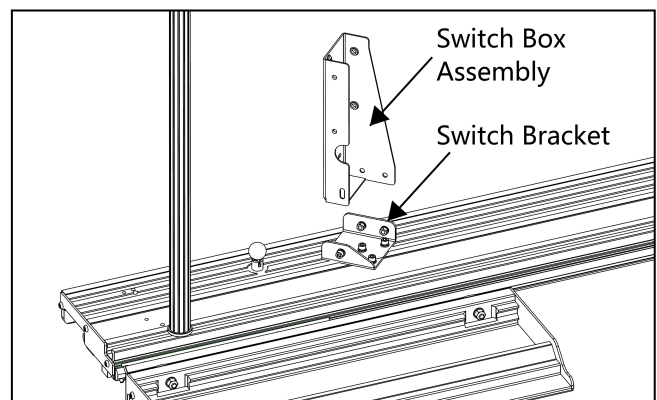

Fig. 19
- As shown in **Fig. 19**, mount the switch bracket at the bottom of the sliding table by using the supplied three M6-1.0x16 cap screws, three M6 washers and three M6 lock washers.
- As shown in **Fig. 19**, attach the switch box assembly to the switch bracket by using three M6-1.0x16 cap screws, six M6 washers, three M6 lock washers and three M6 nuts.